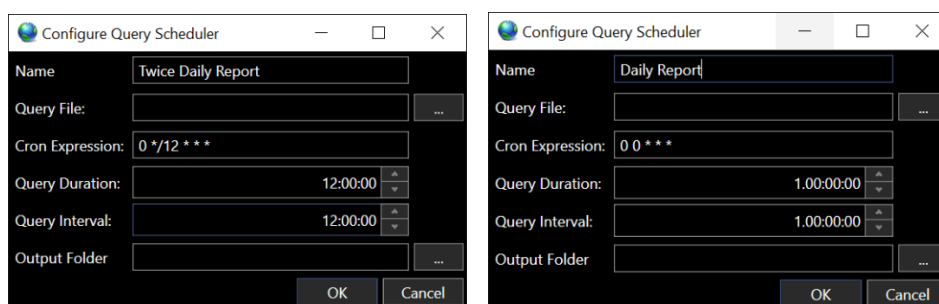

FIGURE 14-100 DATA RECORDING – QUERY SCHEDULER - QUERY SCHEDULE EXAMPLES
- **Query Interval:** The query interval describes the length of sub-queries. Over the course of a query duration, the query can be repeated multiple times, with each sub-query being the length of the query interval. See Figure 14-100
Figure 14-100 shows the CRON expression, Query Duration and Query Interval settings for a data query to be run every 12 hours (noon UTC and midnight UTC) for the past 12 hours (figure on left) and every 24 hours (at midnight UTC) for the previous 24 hours (figure on right).